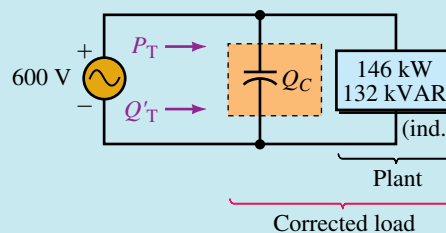

FIGURE 17–22
- c. For the original circuit Figure 17–21(a), $S_T = 196.8 \text{ kVA}$. Thus,